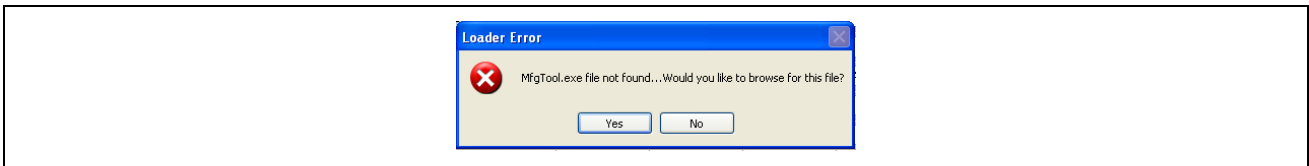

Figure 6 Loader Error Dialog
- 8 If the reprogramming software is not found then the dialog shown in Figure 6 will allow you to browse to the MfgTool.exe file.